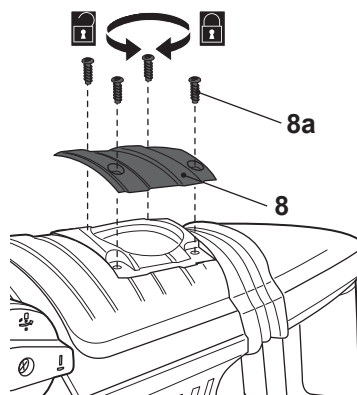

Fig. 11
- > Loosen the bolts (8a) with a proper crosshead screwdriver and remove them together with the gearbox cover (8) (Fig. 11).
- > Fit the gearbox cover (8) back onto the product and secure it with the bolts (8a). Make sure it is properly fastened.